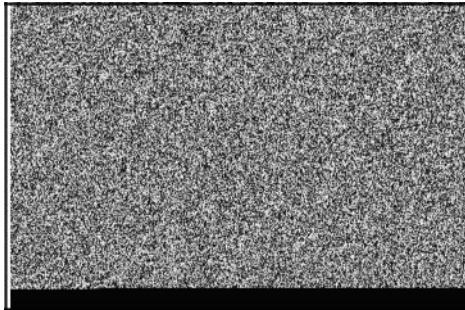

Figure 15
1. Remove three screws then remove pump cover (A, Figure 15) and o-ring (B).